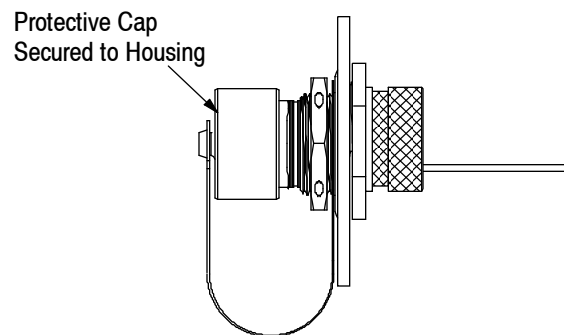

Figure 11
2. Make sure that the flange O-ring is installed in the groove of the housing flange (refer to Figure 1). Then, install the connector through the back of the panel so that the O-ring on the shoulder of the housing is flat against the panel. See Figure 11, Detail A.
3. Slide the loop of the tether of the protective cover over the threads at the front of the flange of the housing. See Figure 11, Detail A.
4. Thread the panel nut onto the housing. See Figure 11, Detail A. Using the jam-nut socket and torque wrench, tighten the panel nut to a torque between 20 and 30 Nm. The O-ring will be compressed.
5. Thread the protective cap onto the housing. Hand-tighten the protective cap. See Figure 11, Detail B.